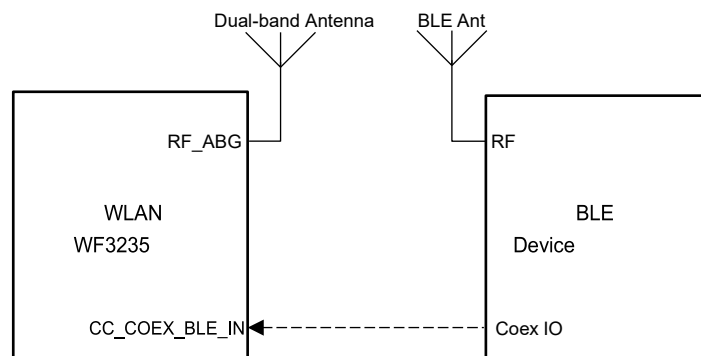

Figure 6-1. Dual-Antenna Coexistence Mode Block Diagram
- Dual-band Wi-Fi (see Figure 6-1)
Figure 6-1 shows the dual antenna implementation of a complete Bluetooth® low energy and WLAN coexistence network with the WLAN operating on either a 2.4- or a 5 GHz band. Note in this implementation a Coex switch is not required and only a single GPIO from the BLE device to the WF3235 device is needed.